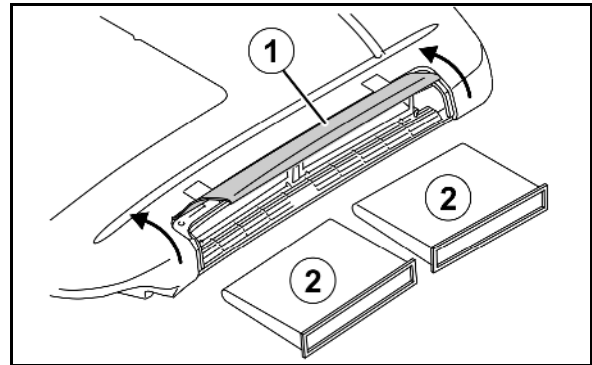

Fig. 188
1. Remove the circulating air grille (Fig. 188/1).